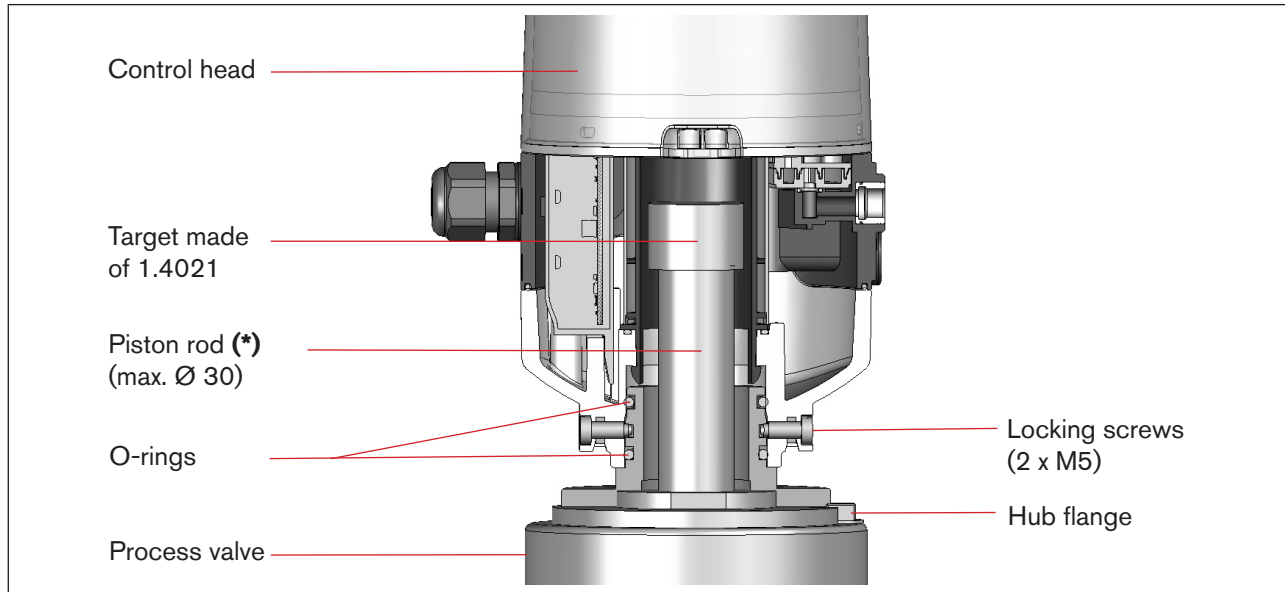

Fig. 10: Schematic diagram of the control head - process valve adaptation
- Secure control head with the two locking screws (shoulder screws M5) in the middle groove of the hub flange to prevent it from being pulled off the hub flange – tightening torque: max. 3.2 Nm (see “Fig. 10: Schematic diagram of the control head - process valve adaptation” and “7.2.3. Realignment of the control head”).
- Loosen the locking screws (shoulder screws M5 – see “Fig. 10”) slightly until the underside of the screw head is flush with the auxiliary surface of the housing.